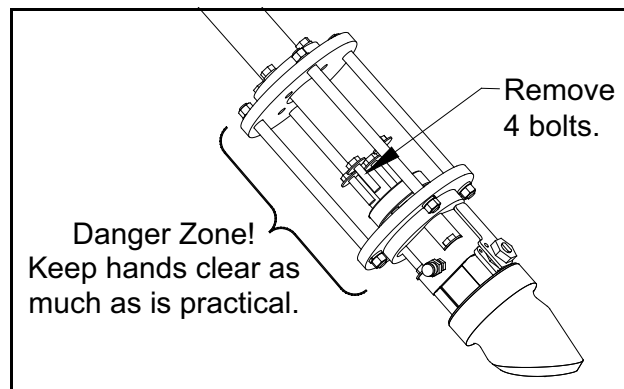

Figure 83: Transducer Flange Bolt Removal
WARNING! During the installation and removal of a transducer, the indicated danger zone areas are potential pinch points (see *Figure 83 on page 99*). Attention is required to ensure safe use.
6. Remove the four bolts from the transducer flange with a 9/16" socket wrench (see *Figure 83* below).
WARNING! During the installation and removal of a transducer, the indicated danger zone areas are potential pinch points (see *Figure 83* above). Attention is required to ensure safe use.